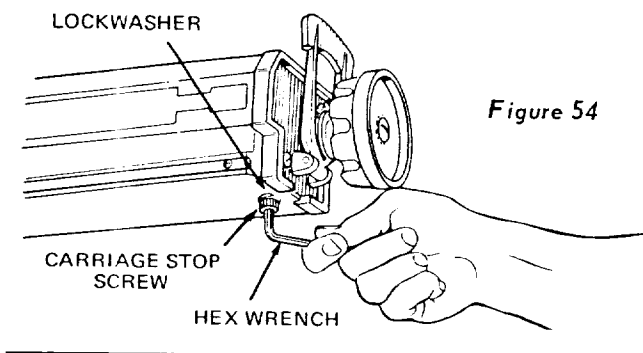
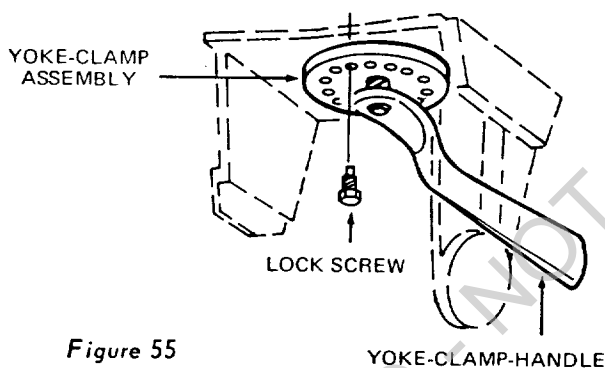
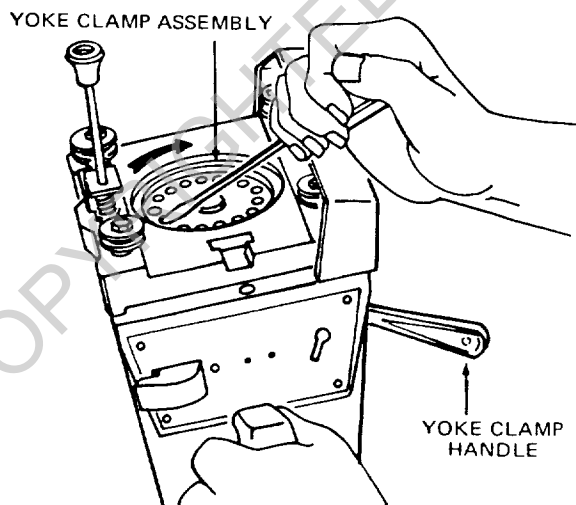

Figure 54
Figure 55
Figure 56
- (1) Loosen the yoke-clamp handle.
- (2) Remove the carriage stop screw and lockwasher (figure 54) with the 1/4-inch hex-L wrench.
- (3) Grasp the motor and carriage assembly and, holding it parallel to the radial arm until all bearing rollers are free of their tracks, move it carefully off the end of the arm.
- (4) Rest the motor and carriage assembly on the saw table and remove the lock screw (figure 55).
- (5) Using a screwdriver, rotate the yoke clamp assembly (figure 56) clockwise until the next hole will line up with the lock screw. (See figure 55.) Usually, rotating the yoke clamp assembly one hole will correct this adjustment. However, in some extreme cases it may be necessary to rotate it two holes or more.
- (6) Align, install and tighten the lock screw. (See figure 55.)
- (7) Hold the motor and carriage assembly parallel to the radial arm and start the rear bearings onto the tracks. Continue to hold the assembly parallel to the tracks until the forward bearings are on the tracks.
- (8) Slide the carriage rearward on the radial arm and reinstall the carriage stop screw and lockwasher (figure 54).
- (2) Loosen the yoke-clamp handle (figure 56).